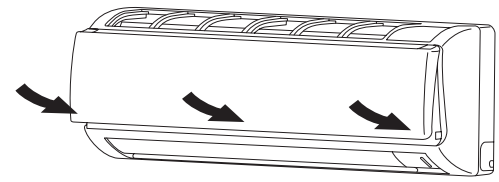

Fig. 2-169
- (b) Press the bottom right and left corners and center of the air intake grille to attach it to the indoor unit. (Fig. 2-169)